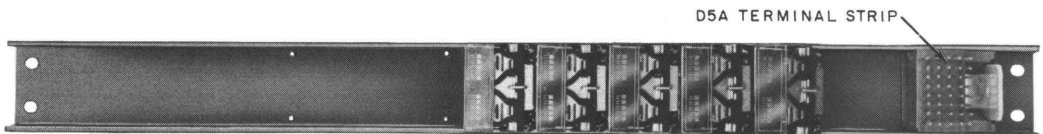
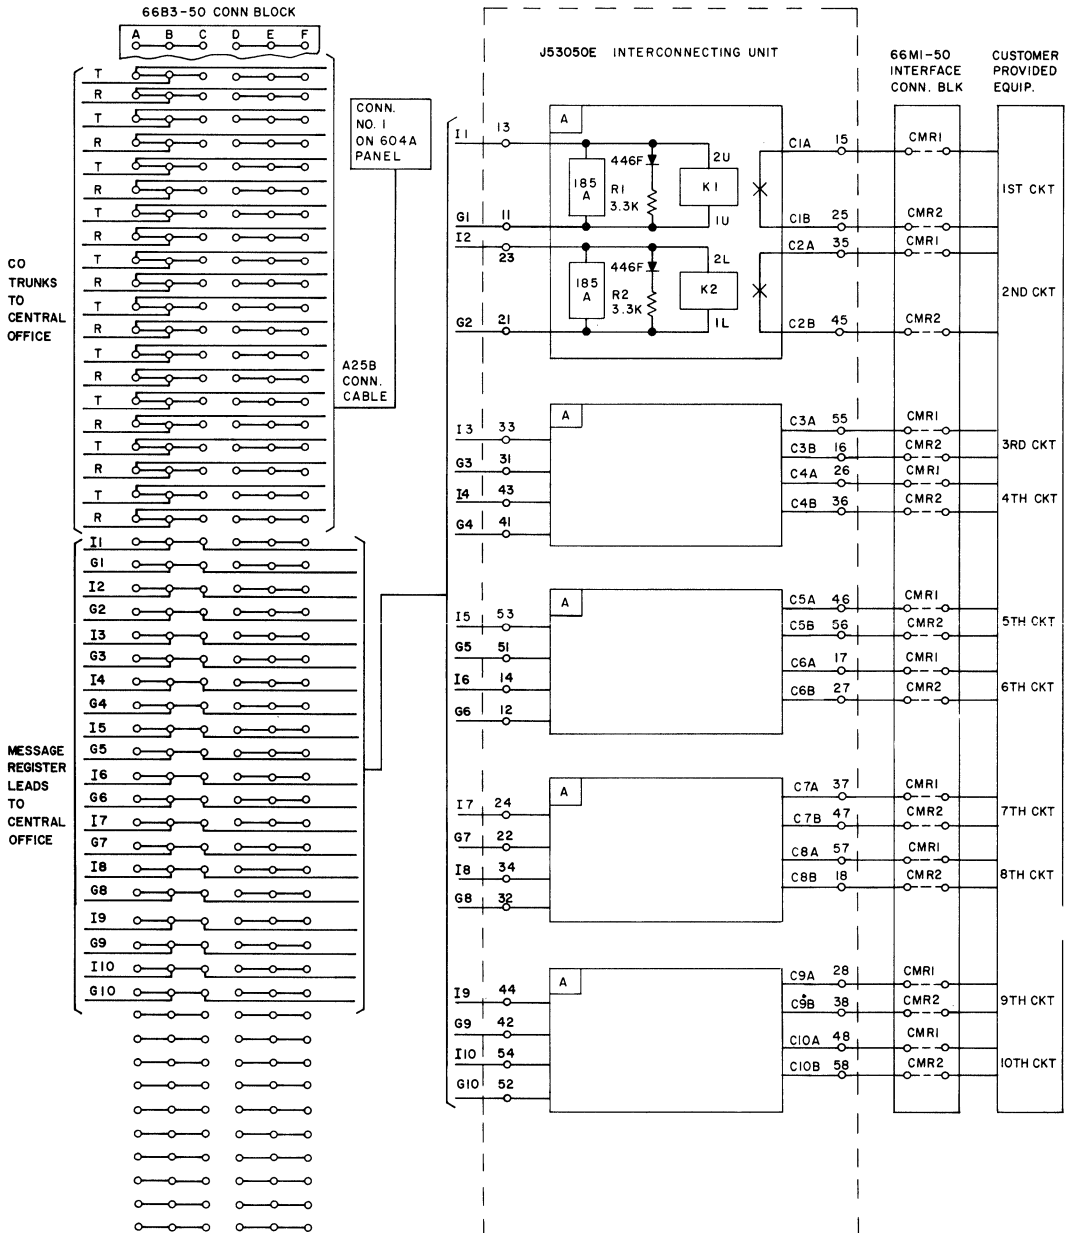
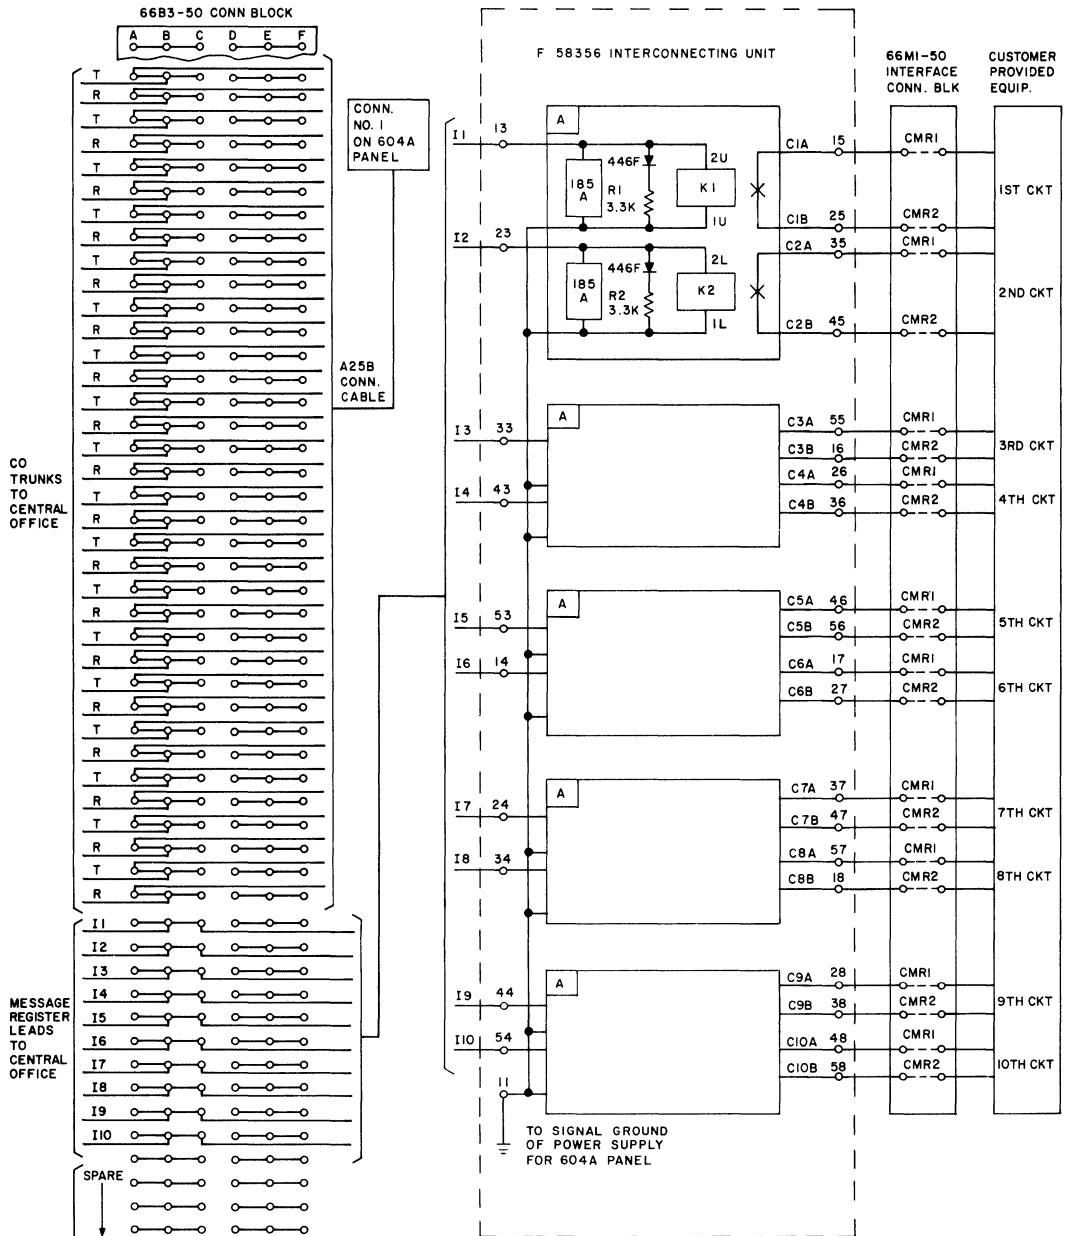

Fig. 1—J53050E Interconnecting Unit
Fig. 5—Connecting Arrangement CEK, Paired Wire Operation, Using J53050E Interconnecting Unit (Option Y), Schematic
Fig. 6—Connecting Arrangement CEK, Third Wire Operation, Using F58356 Interconnecting Unit, Schematic
1.04 The J53050E IU (Fig. 1) is used to connect from 1 to 10 customer-provided (CP) message registers to Bell System equipment arranged for remote register operation. The J53050E IU arranged as shown in Fig. 4 (Option Z) or the F58356 IU arranged as shown in Fig. 6 is used for operation over a third wire; the J53050E IU arranged as shown in Fig. 5 (option Y) or the F58356 IU arranged as shown in Fig. 7, and modified as
4.02 Electrical connection is made to the D5A terminal strip (Fig. 1) using a wire-wrap tool.